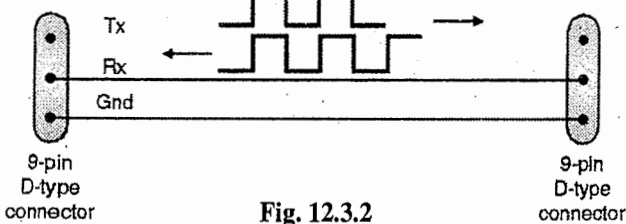

Fig. 12.3.2
- Fig. 12.3.2 also shows a simple three wire connection to support full-duplex serial communication.